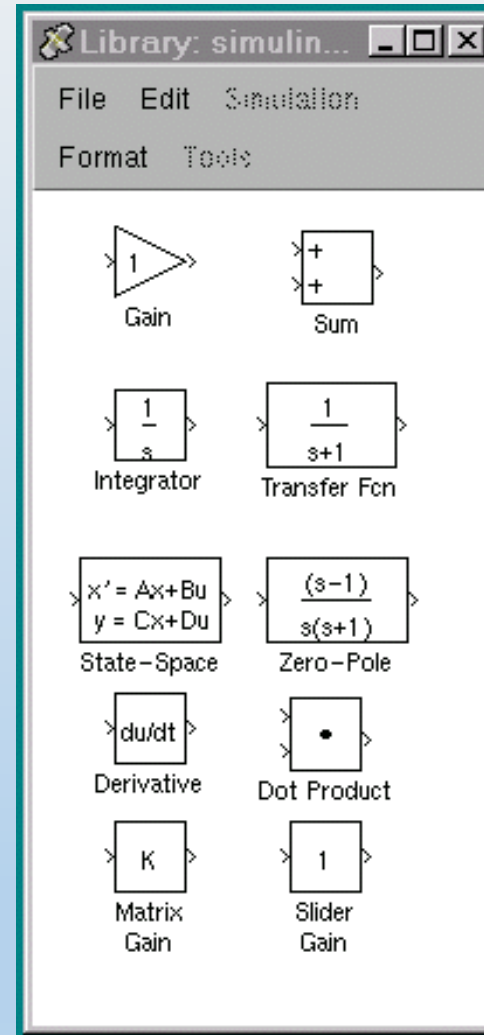

Fig. 6
- Double click on the Step block to set up the appropriate parameters (see Figure 6)